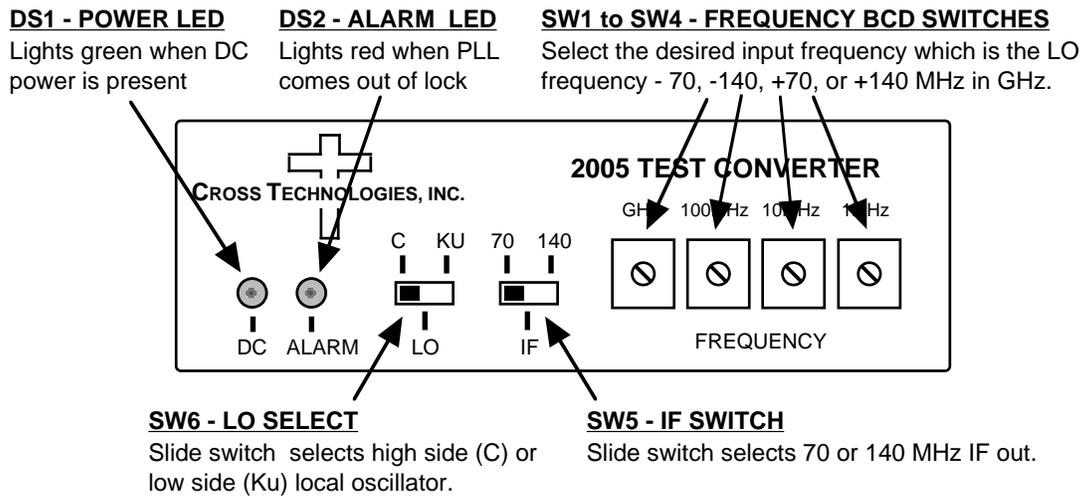

FIGURE 2.1 2005-20P Front Panel Controls and Indicators
2.2 Front Panel Controls/Indicators - Figure 2.1 shows front panel controls and indicators for the 2005-20P.
2. Select either C or KU band (SW6) and either 70 or 140 MHz IF (SW5) using the front panel switches (Figure 2.1).
6. Set BCD switches, SW1 to SW4, to the desired frequency (Figure 2.1).
7. Be sure DS1 (green, DC Power) is on and DS2 (red, Alarm) is off (Figure 2.1).